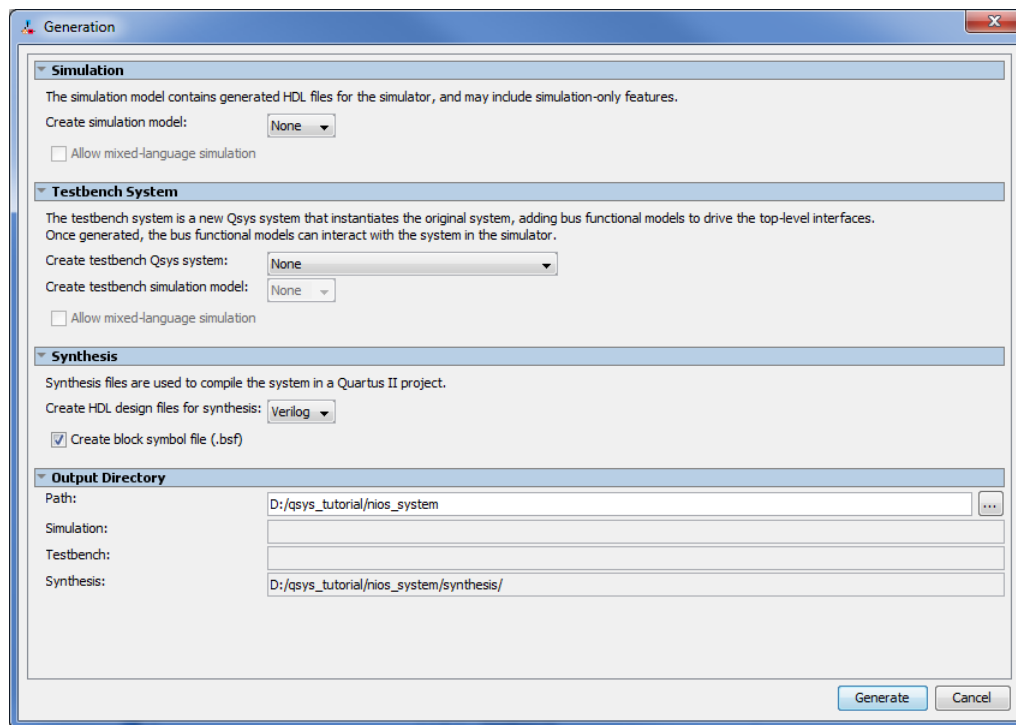

Figure 20. Generation of the system.
- Having specified all components needed to implement the desired system, it can now be generated. Save the specified system; we used the name *nios\_system*. Then, select **Generate > Generate...**, which leads to the window in Figure 20. Select **None** for the options **Simulation > Create simulation model** and **Testbench System > Create testbench Qsys system**, because in this tutorial we will not deal with the simulation of hardware. Click **Generate** on the bottom of the window. When successfully completed, the generation process produces the message "Generate Completed".